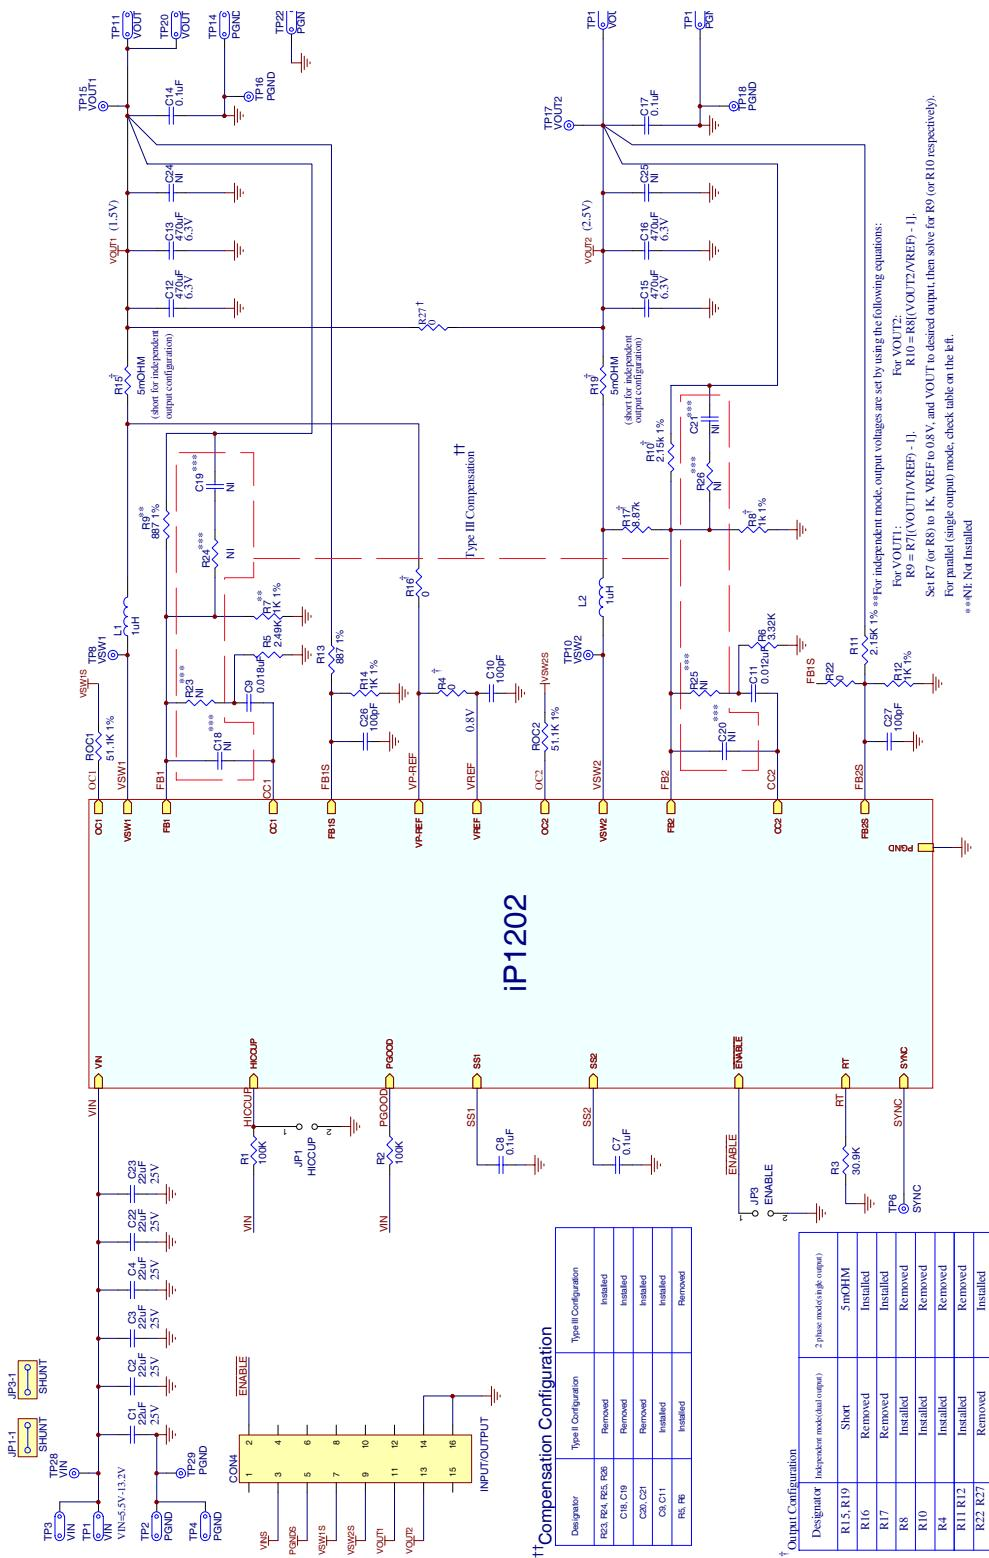

Fig. 32: Reference Design Schematic
1. Follow the layout scheme presented in Fig. 32. Make sure that the output inductors L1 and L2 are placed as close to iP1202 as possible to prevent noise propagation that can be caused by switching of power at the switching node  $V_{sw}$ , to sensitive circuits.